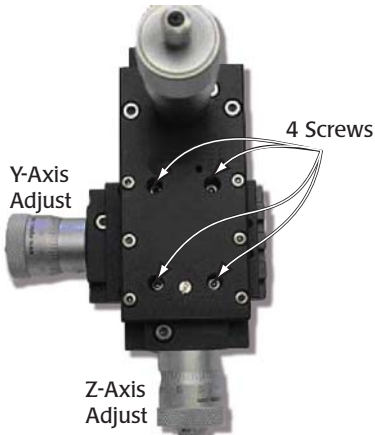

Fig. 9—Position right-handed micromanipulator to expose the four hex screws
1. Position the manipulator with the “Y” axis adjustment on the left, and “Z” axis adjustment facing toward you (**Fig. 9**).
2. Use the “Z” axis adjustment knob to align the access holes with the (4) screws that fasten the “Y” axis subassembly to the main unit (**Fig. 9**).
3. Using a 2.5mm hex wrench (WPI #3327), loosen and remove the (4) screws shown in **Fig. 9**. The manipulator disassembles into in two parts (**Fig. 10**).